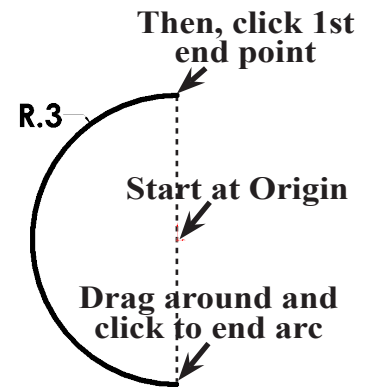
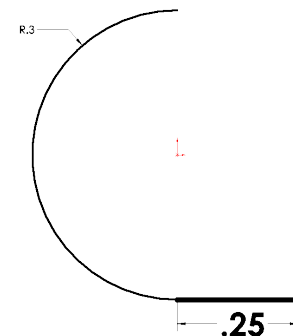
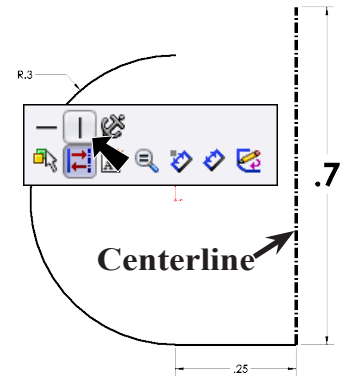

Fig. 2
Fig. 3
Fig. 4
Step 3. Click **Centerpoint Arc**  (S) in the Arc flyout  on the Sketch toolbar.
Step 4. Click the Origin  to start the arc and move the cursor directly above the origin. Click to place the first end point, then move cursor counterclockwise 180 degrees to directly below the Origin. Click to place the second end point, **Fig. 2**.
Step 5. Click **Smart Dimension**  (S) on the Sketch toolbar.
Step 6. Dimension the arc **radius .3**, **Fig. 2**.
Step 7. Click Zoom to Fit  (F) on the View toolbar.
Step 1. Click **Line**  (L) on the Sketch toolbar.
Step 2. Draw line from bottom end point of arc across sketch as shown in **Fig. 3**. Keep the line horizontal. As a guide, use the inferencing line, the dotted line that appears when you draw.
Step 3. Click **Smart Dimension**  (S) on the Sketch toolbar.
Step 4. Dimension **line .25**, **Fig. 3**.
- Step 1. Click **Centerline**  (S) in the **Line flyout**  on the Sketch toolbar.
- Step 2. Draw a vertical centerline starting from the end of the line. Draw the centerline up past the top of the arc, **Fig. 4**.
- Step 4. Click the centerline and click **Make Vertical**  on the Content menu, **Fig. 4**.
- Step 5. Click **Smart Dimension**  (S) on the Sketch toolbar.
- Step 6. Dimension the centerline **.7** as shown in **Fig. 4**. To Smart dimension click the centerline, then move the cursor down out to the right of drawing and click. Key-in **.7** for the dimension and press ENTER.